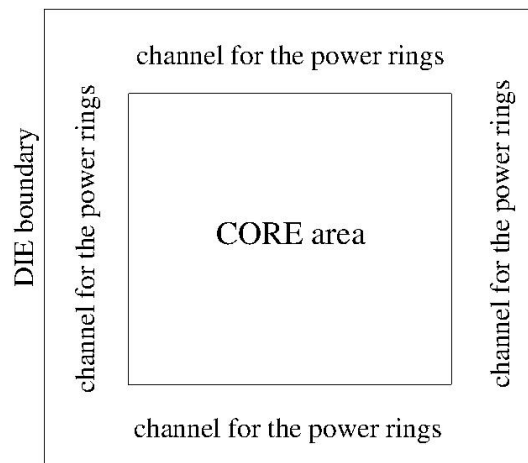

Figure 6.2: Area of the die dedicated to the core (*the place for the cells*) and to the power supply rings all around it.
- 2) **Structuring the Floorplan.** At this step, Innovus sets the area to be assigned to the cell ensemble together with the area where the power supply ring will be routed, as shown in Figure 6.2.